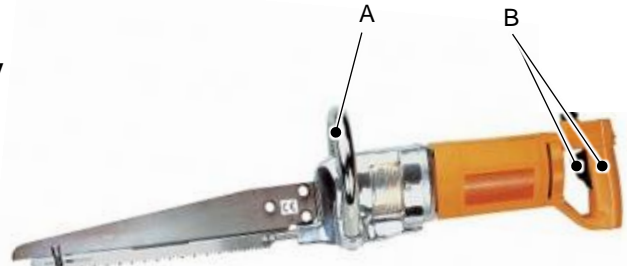
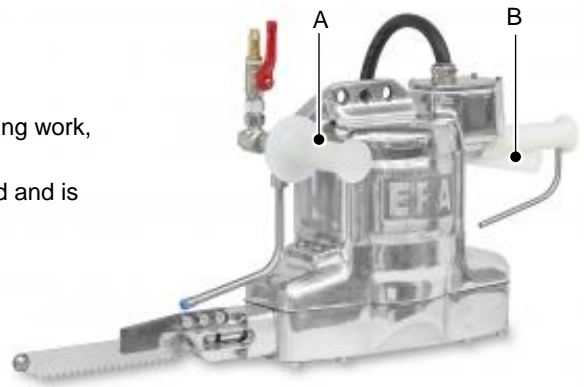

Fig. 6.1 – Switch operation
Fig. 6.2 – Switch operation
The machine is equipped with a handle (A) and a switching handle (B). To switch on, press the switch with your fingers, see Fig. 6.1 and Fig. 6.2.